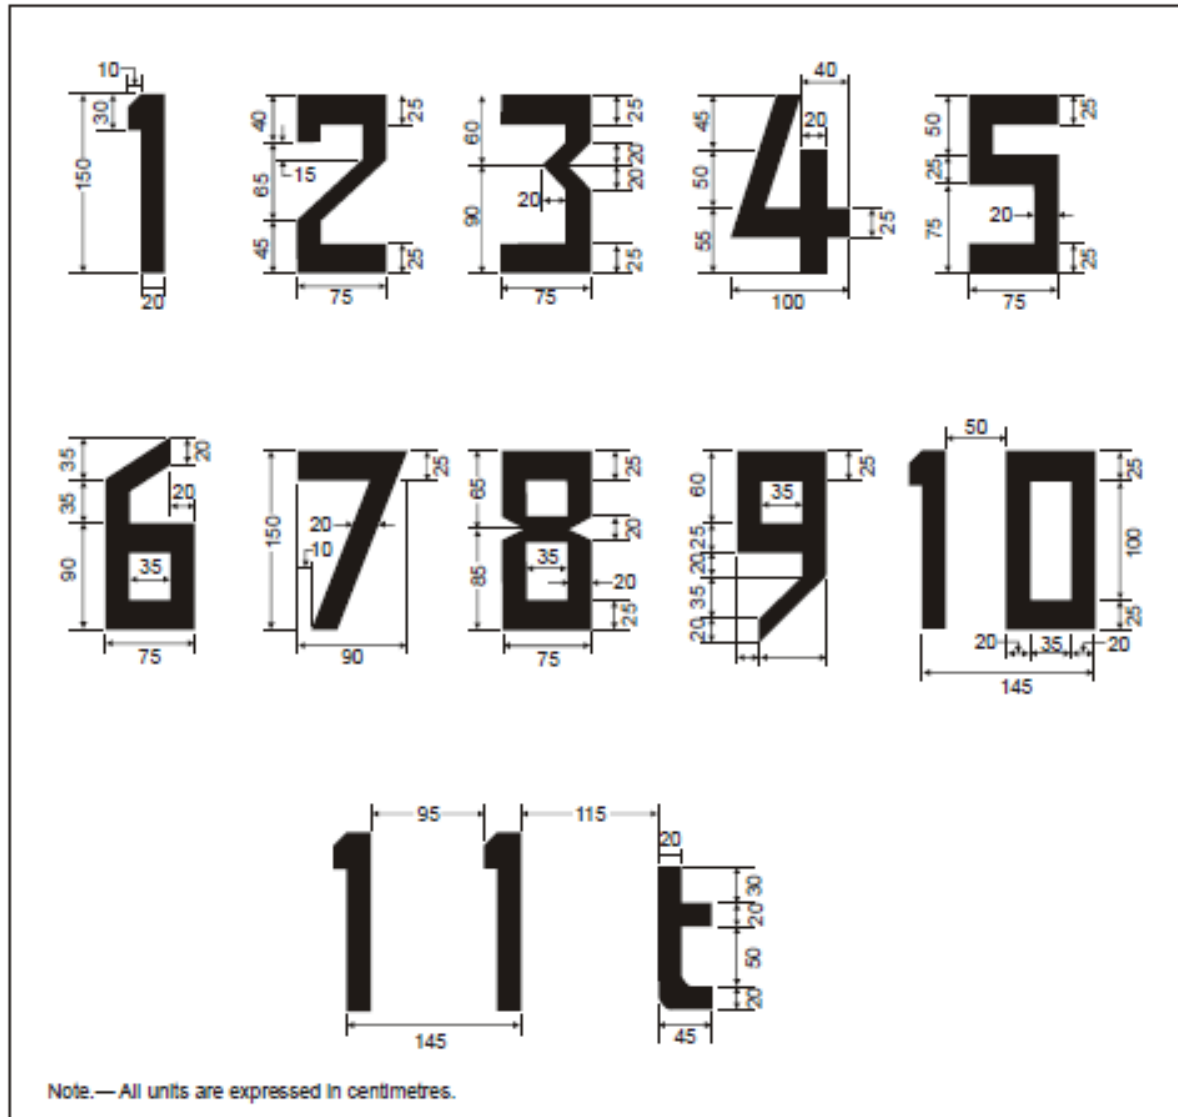

Figure 5-4. Form and proportions of numbers and letters
- FATO greater than 30 m – as depicted in Fig 5-4
- *Same dimensions and portion as in figure 5-4*
*The numbers of the marking should have a colour contrasting with the background and should be in the form and proportion shown in Figure 5-4.*